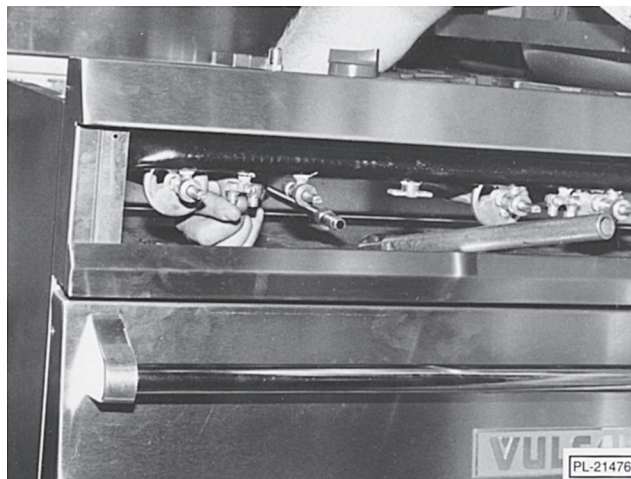

Fig. 46
2. Disconnect pilot tubing (Fig. 46).